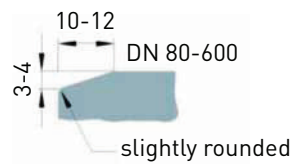

Fig. 5
- The cut surfaces of pipes shortened on the construction site must be chamfered according to the original spigot (see Fig. 5 and 6)